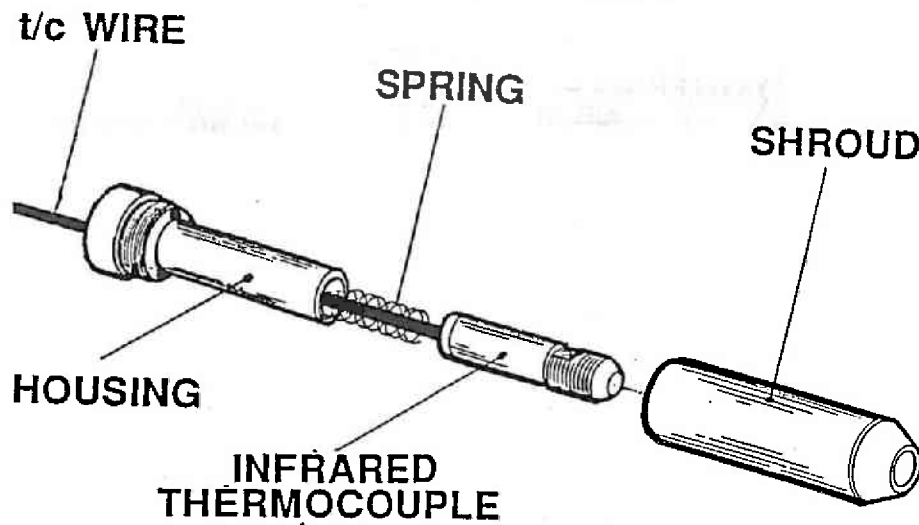

FIG.1
1. See Figure 1. Unscrew the stainless steel Shroud and remove the copper Water Coil from the Housing. (Straighten and push the copper tubing forward to remove.)
3. Slide the end of the thermocouple cable through the Housing as shown in Figure 1.
SEE FIG.1 FOR THERMOCOUPLE ARRANGEMENT.